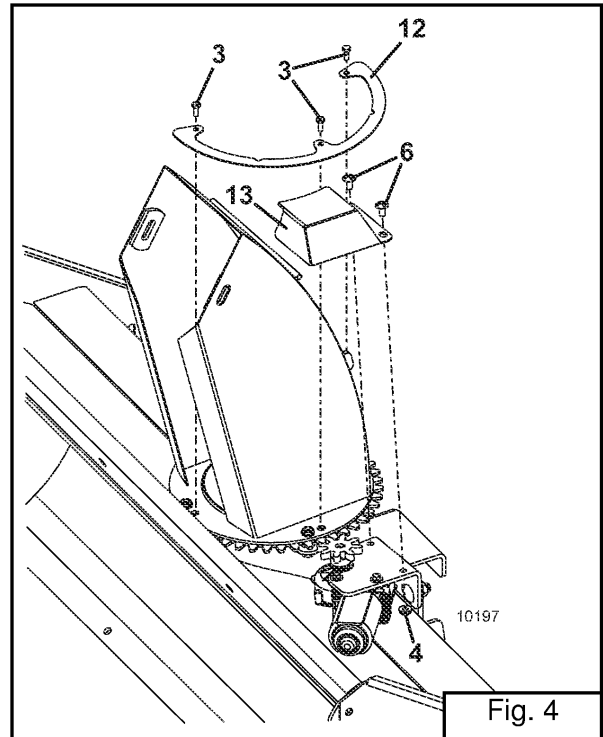

Fig. 4
- Install the spout gear shield (item 12) over the spout gear and secure with three 10-24 machine screws (item 3). (See Fig. 4)
- Install the spout gear motor shield (item 13) over the electric motor (item 1). Secure with two .25-20 x .5 truss bolts and whiz nuts (items 6 & 4).